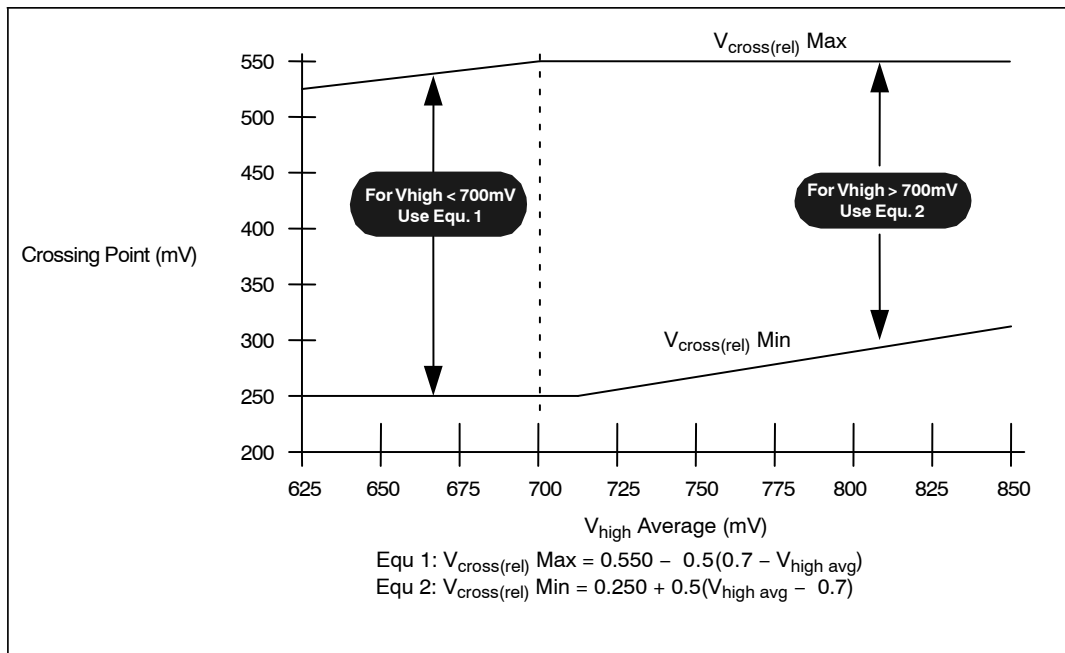

Figure 16.  $V_{\text{cross}}$  Range Clarification (Note 40)
16. Vcross(rel) Min and Max are derived using the following, Vcross(rel) Min =  $0.250 + 0.5 (V_{high\ avg} - 0.700)$ . Vcross(rel) Max =  $0.550 - 0.5 (0.700 - V_{high\ avg})$ . (see Figure 16 for further clarification).